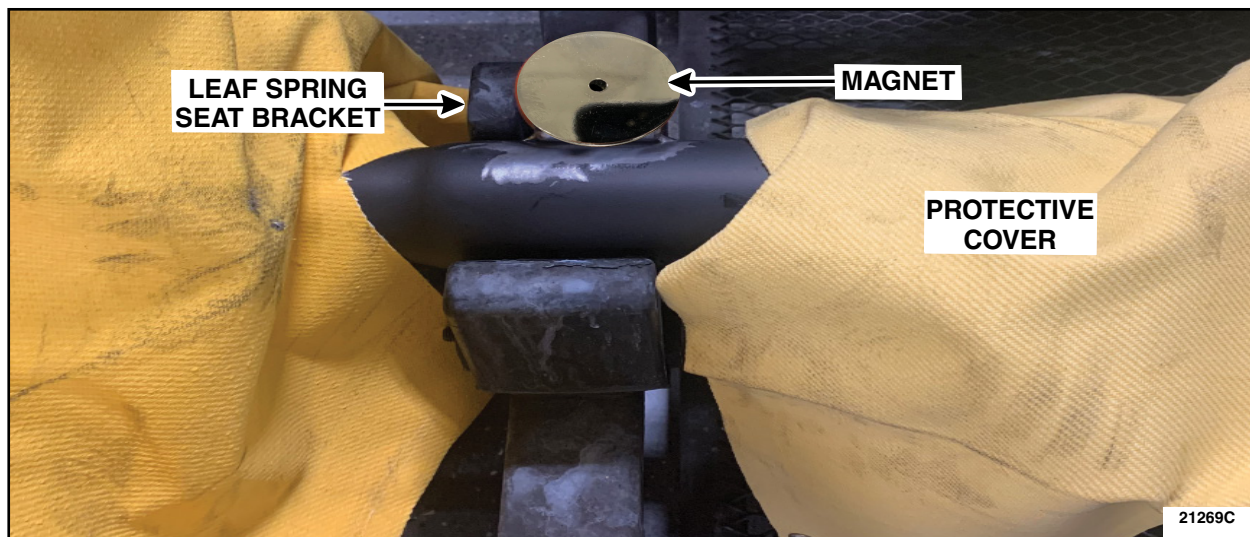

FIGURE 10
12. Protect surrounding areas and leaf spring seat bracket mounting holes to prevent splatter damage. Apply anti-splatter spray as needed. See Figure 10.
14. Remove protective covers. See Figure 10.